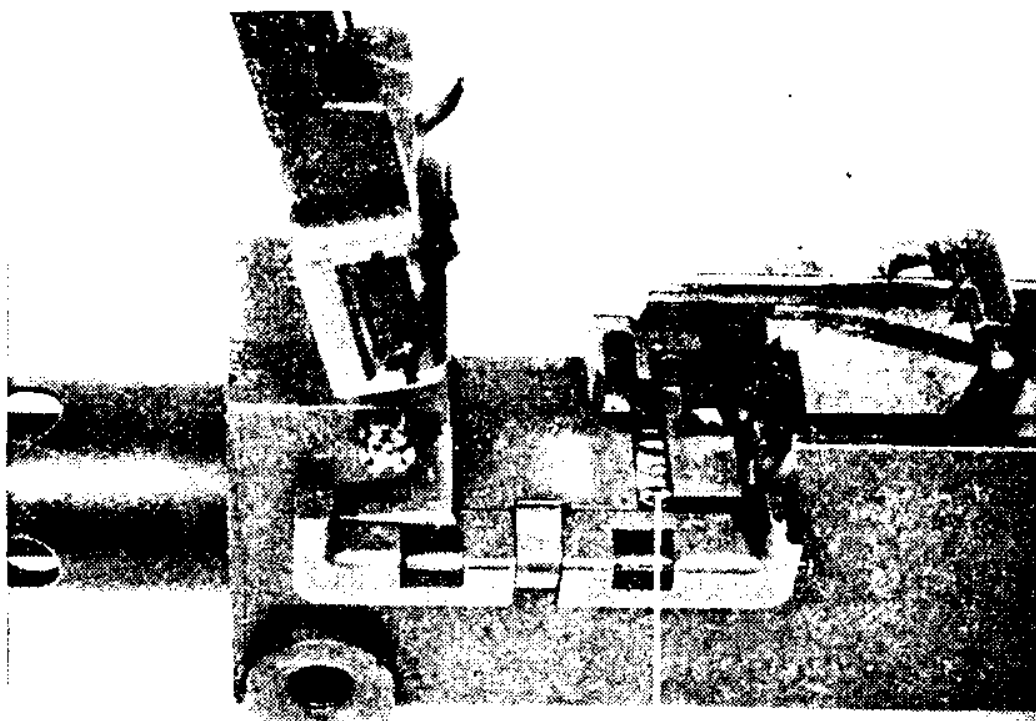

FIGURE 3.—Tight head space.
b. Tight head space (fig. 3).—When the head space adjustment is tight, poor functioning will result, as the breech lock will not fully enter its recess in the bolt. This condition may damage the barrel extension, bolt, or breech lock. Extraction trouble may also occur because of improper timing of locking and unlocking. Furthermore, with a tight head space adjustment the gun operates sluggishly because of the binding of the moving parts. If the head space adjustment is very tight, the notches on the rear end of the barrel can be seen, the bolt handle will not be fully forward, and the firing pin cannot be released by pressing the trigger.